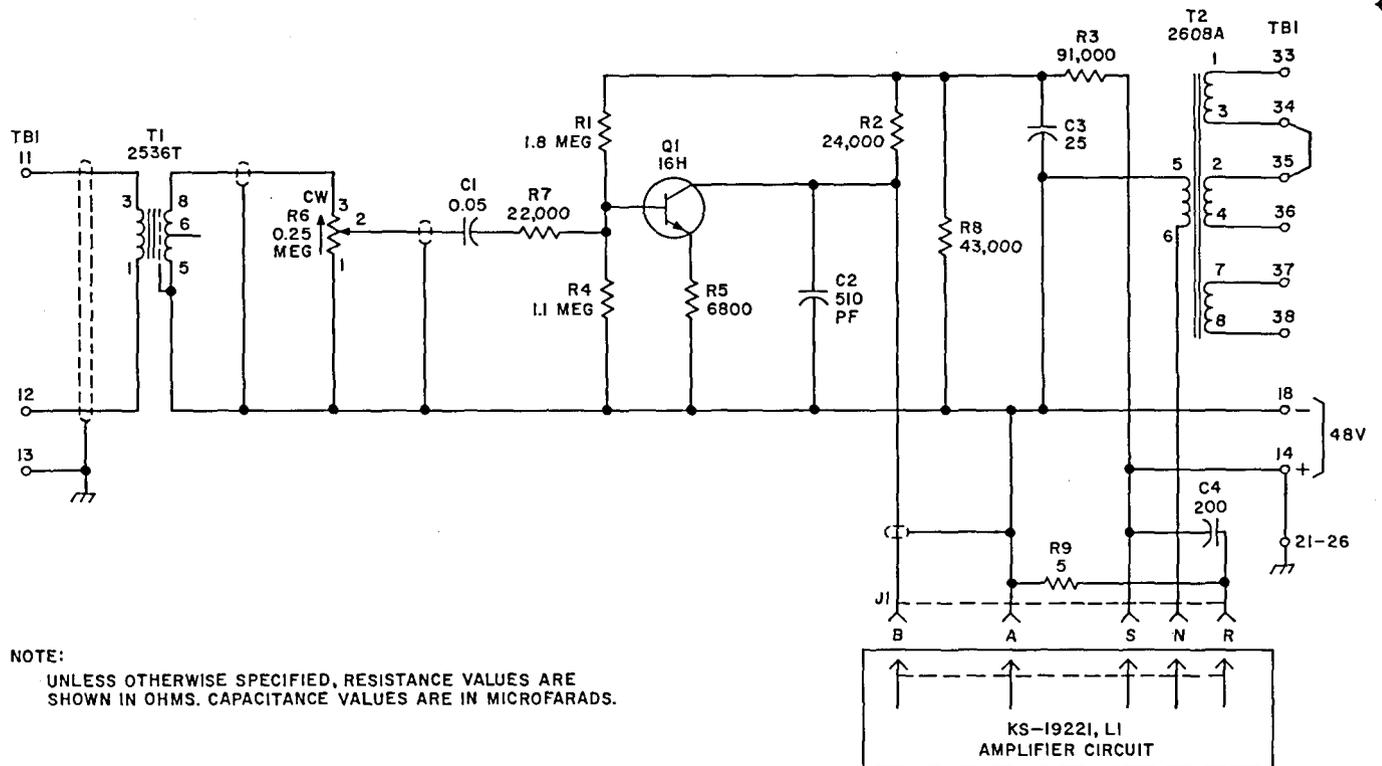

Fig. 4—KS-19739 L1 Amplifier, Schematic Diagram
1.02 This section is reissued to add capacitor C4 and resistor R9 to the schematic diagram, Fig. 4.
1.04 The KS-19739 L1 amplifier consists of a preamplifier, a KS-19221 L1 amplifier, and the necessary input and output transformers mounted on a standard 189A mounting plate. The KS-19221 amplifier is assembled on a plug-in type, printed-wiring board for easy servicing. A schematic diagram of the KS-19739 L1 amplifier is shown in Fig. 4. The KS-19221 L1 amplifier is covered in Sections 024-181-100 and 024-181-500.